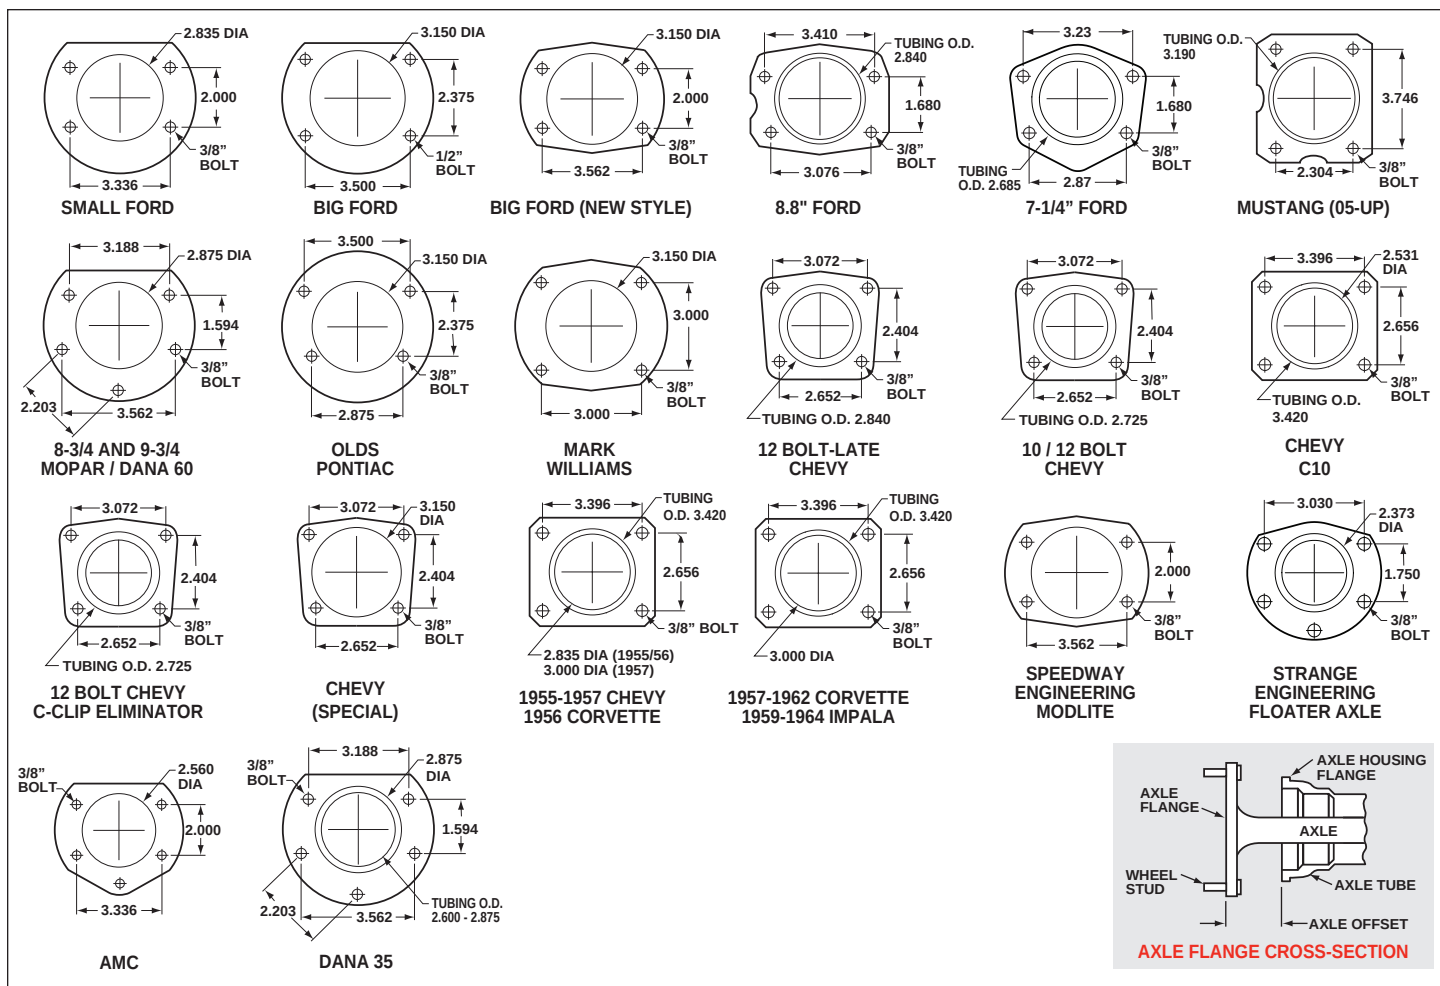

Figure 4. Rear Housing Flange Chart and Axle Flange / Offset Cross-Section
• Make sure this is the correct kit to fit the axle housing flange, not necessarily the rear end make. Many times aftermarket manufacturers put a different make of axle housing flange on the stock rear end housing (Figure 4). Example; Big Ford rear ends with Chevrolet flanges, therefore, a Chevrolet rear disc brake kit would be the correct kit to order. Also, shock clearance may be a problem. They may have to be modified and/or relocated to clear the Wilwood kit after final assembly.
- Dimension from wheel side of axle flange to wheel side of axle housing flange (see Figure 4, lower right hand corner). This dimension is critical to ensure proper alignment of the rotor to the caliper, and should match offset given in the kit description.